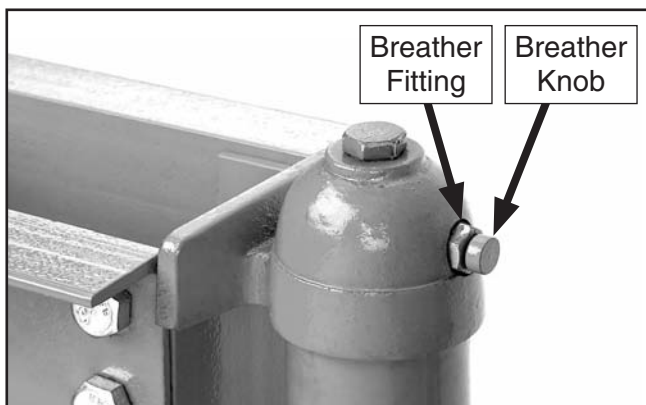

Figure 28. Breather fitting and knob.
3. Using a 14mm wrench, remove the breather fitting shown in **Figure 28**. Next, invert the pump assembly and drain the hydraulic oil into a waste oil container.
2. Using a 14mm wrench, remove the breather fitting shown in **Figure 28**, and top-off the hydraulic oil level as required to the point where oil begins to pour out of the port.